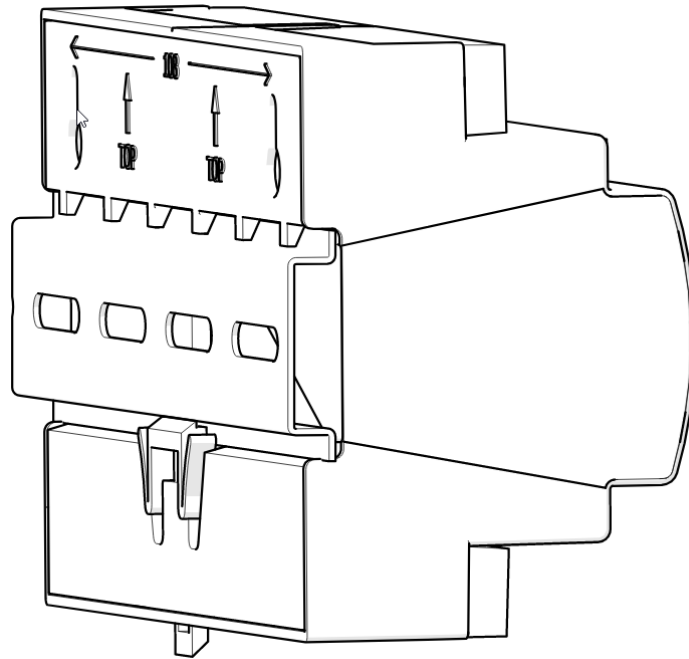

Figure 8. Lock the XM-DO-16T unit on the DIN rail
4. Release the retention clip to lock the unit on the DIN rail. Refer Figure 8.